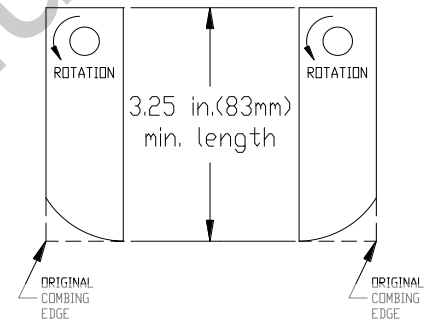

Fig. 9
4. Inspect blades for wear, and immediately replace any bent or cracked blades. Measure the overall length of the blade. (See Fig. 9)